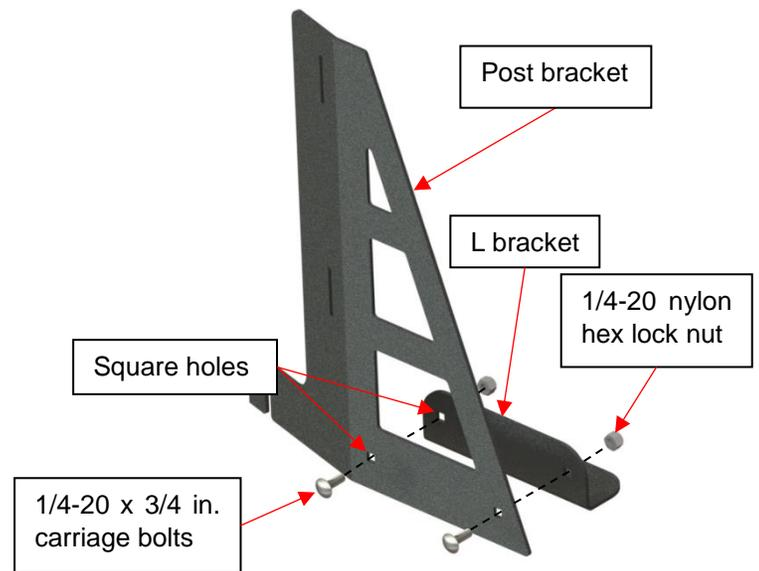

Figure 62
- 1) Attach the L bracket on the post bracket with included 1/4-20 x 3/4 in. carriage bolts and 1/4-20 nylon hex lock nuts. (Figure 62) Repeat for all four post brackets.